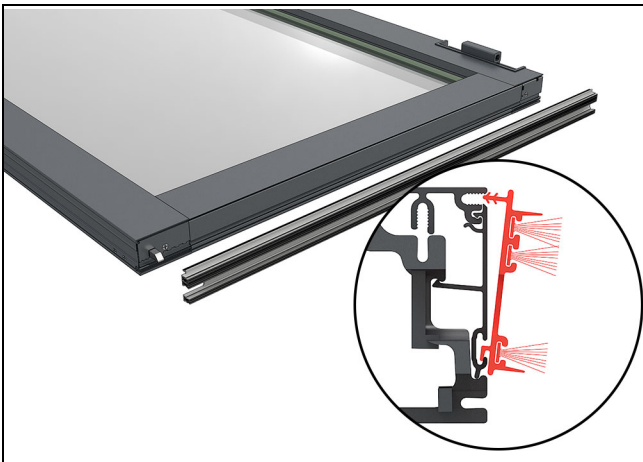

Figure 54
2. When using a **saddle sill** attach the pile weatherstrip on the bottom of the panel (s). See Figure 54